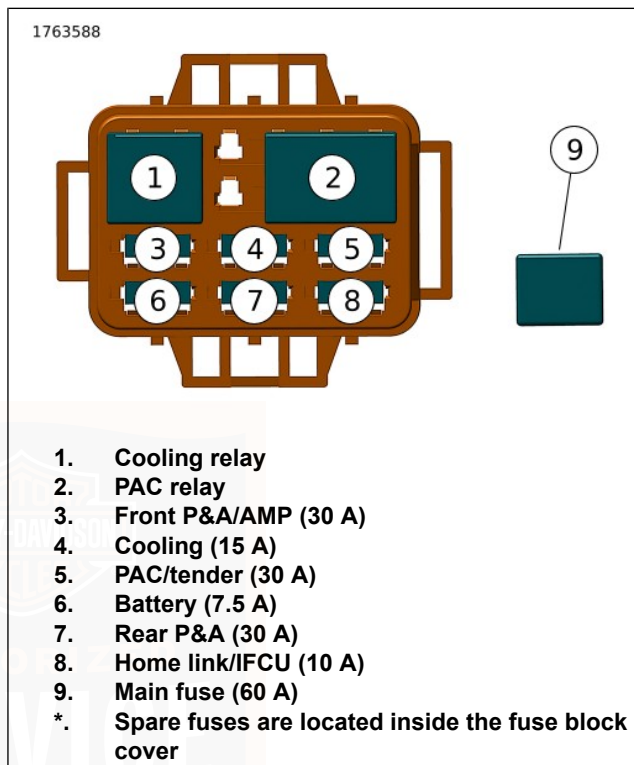

Figure 119. Fuses and Relays
4. See Figure 119. Remove fuse and inspect the element.